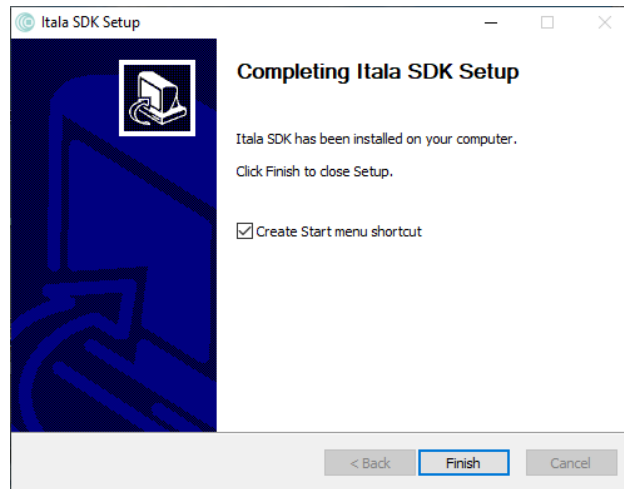

Figure 28: Itala SDK installation finished successfully.
- The Itala SDK installation will be performed automatically. The progress bar can be monitored to check the installation status. At the end of the installation, a confirmation window will be displayed (Fig.28).